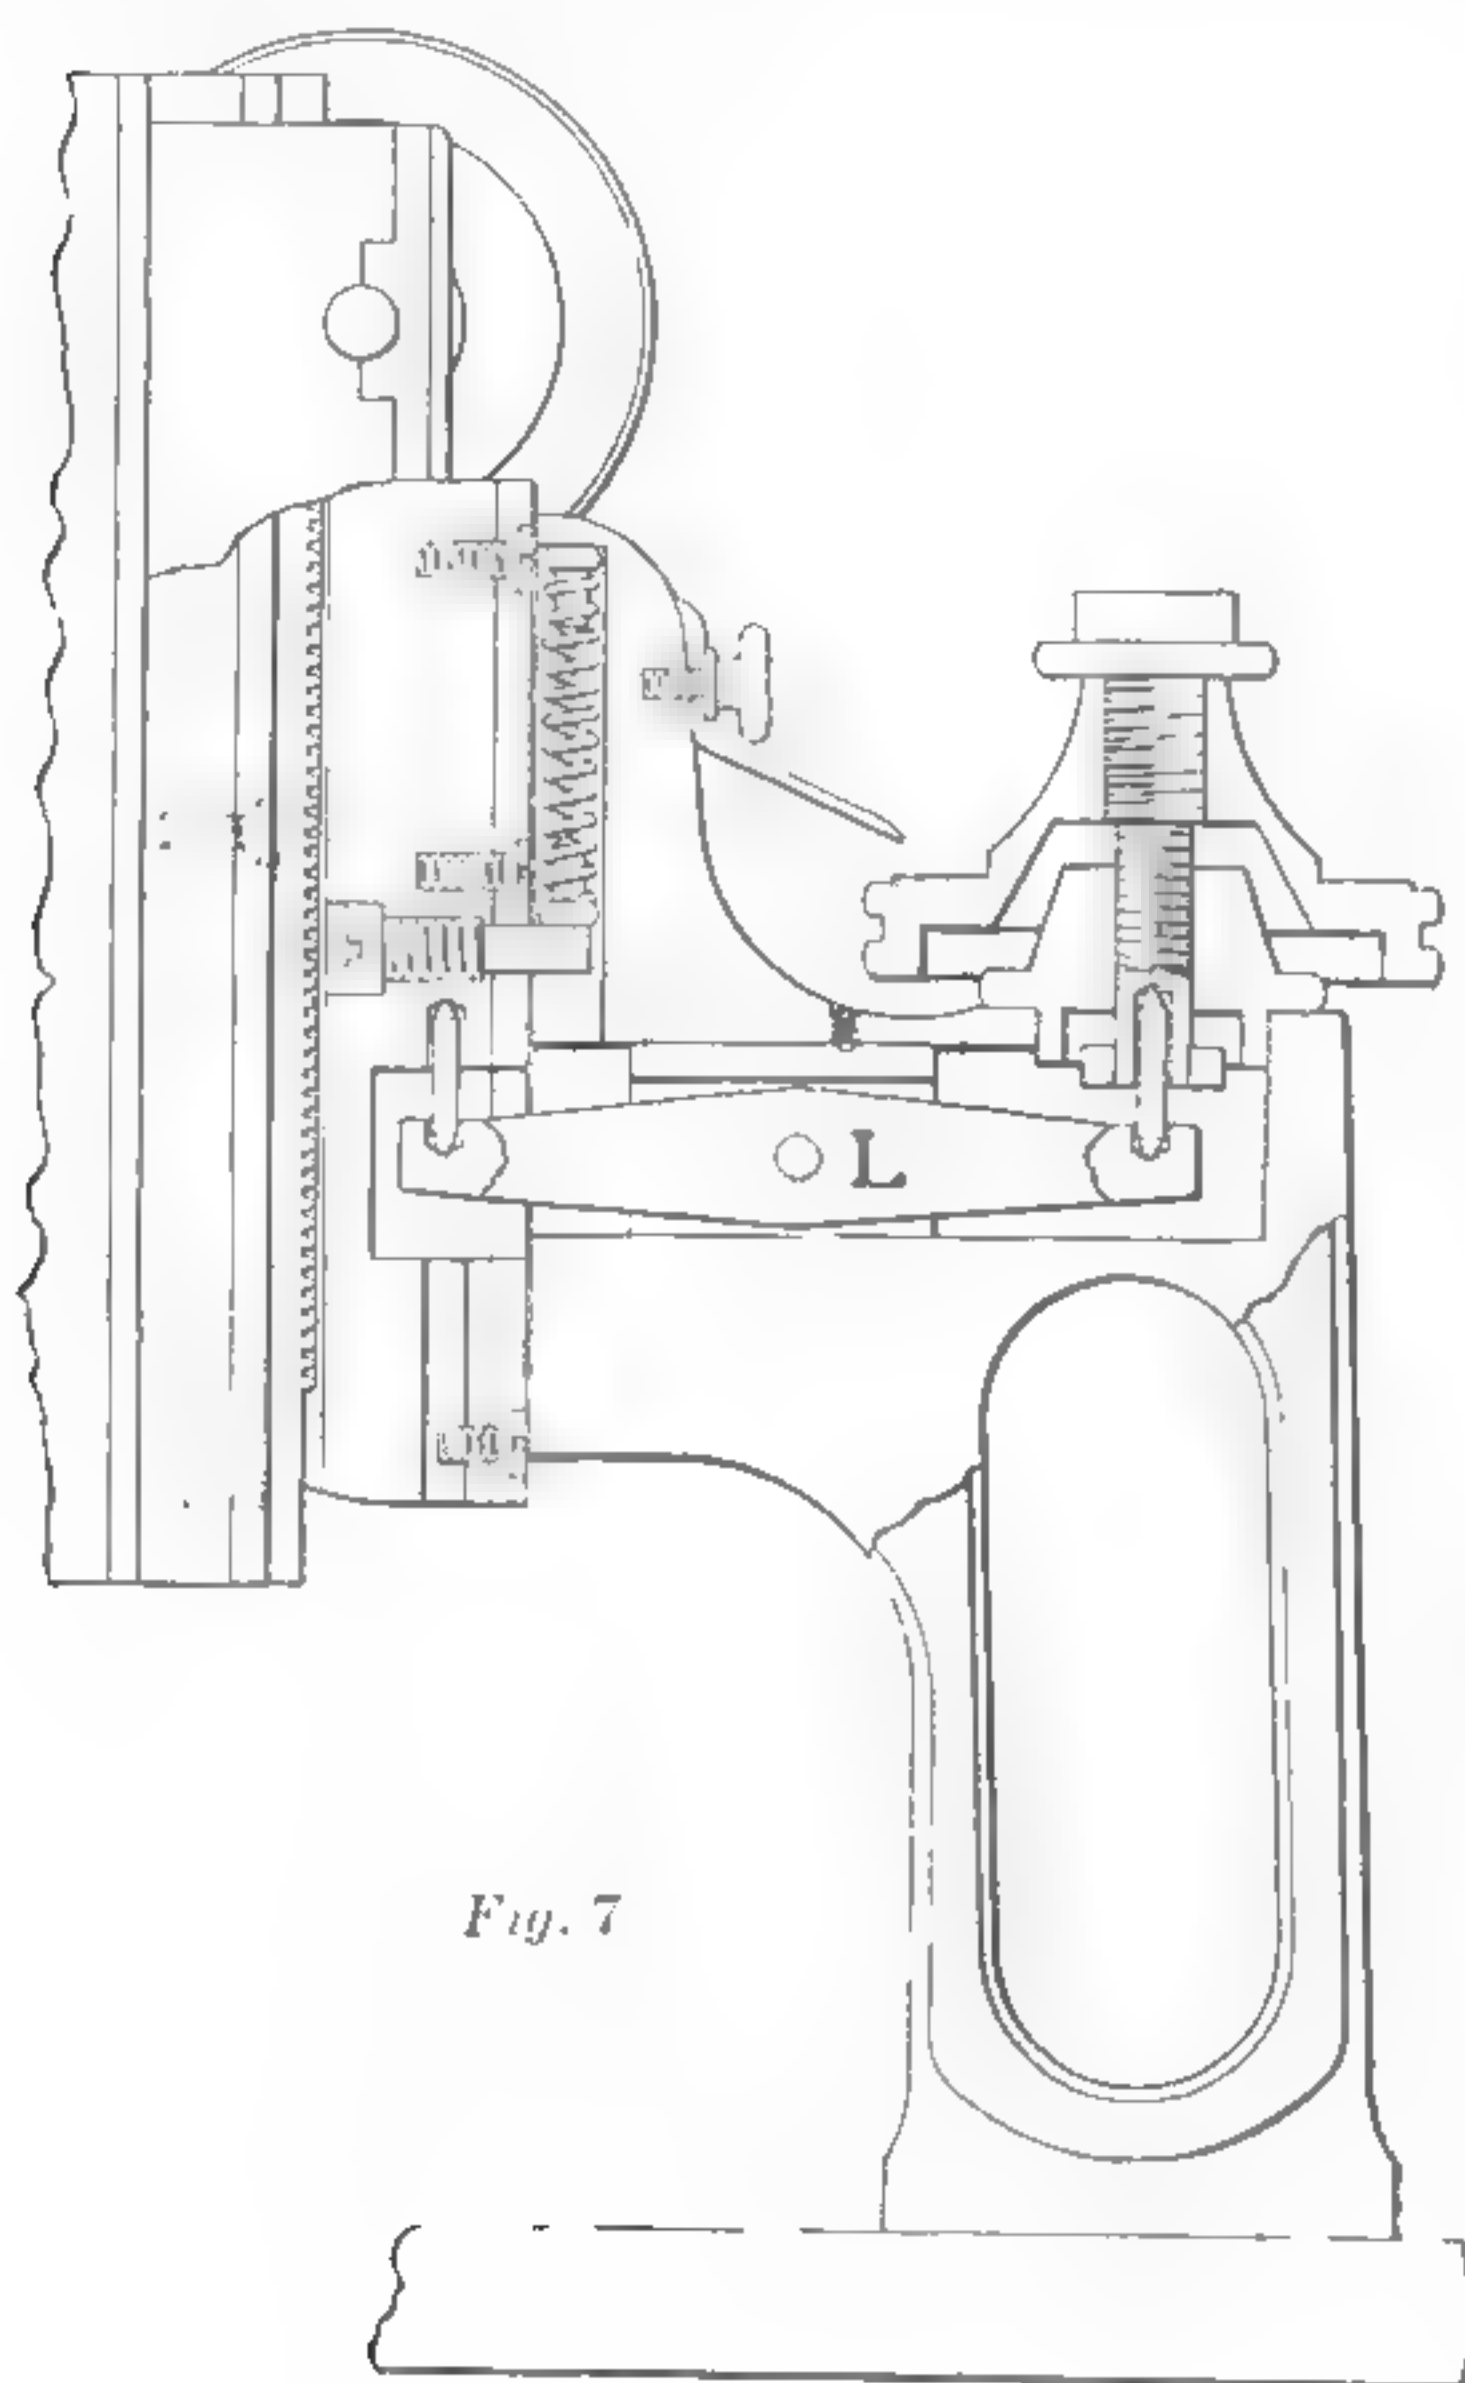

Fig. 7
**Fine Adjustment C** is represented in Nos. 16, 36, 45, 62, 65 and 66. In this type, the movement of the screw is transmitted to the intermediate slide by means of the straight lever, L (Fig. 7),